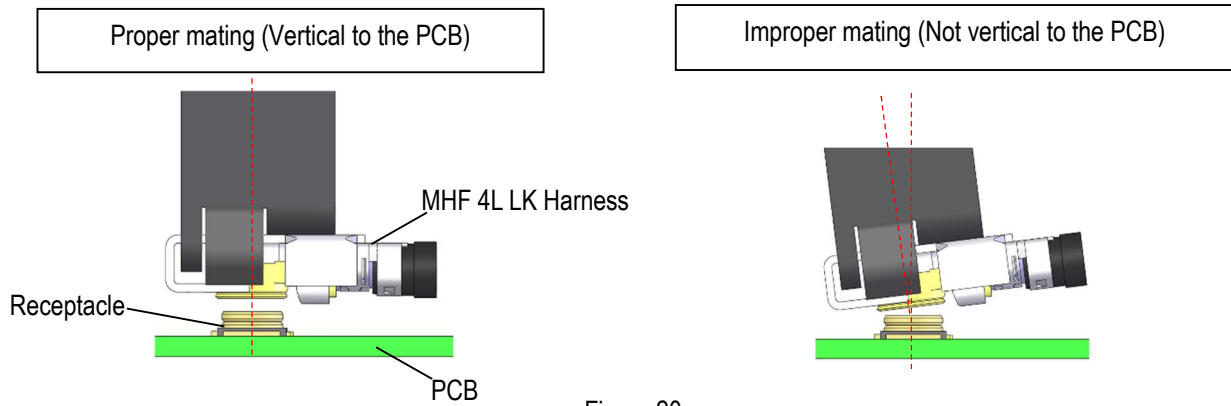

Figure 20
- Be sure to mate the MHF 4L LK Harness vertically to the PCB as shown in Figure 20. Slant mating may cause the damage to the connectors.